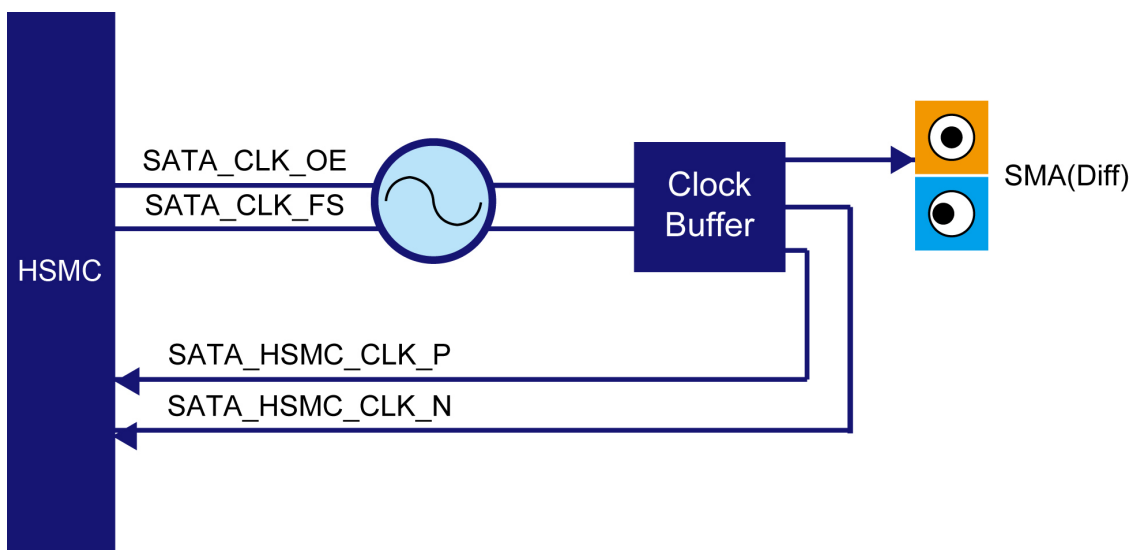

Figure 3.3 Clock connection on the SATA/SAS daughter card
The on-board oscillator is to provide a clean low jitter reference clock at frequencies of 150MHz and 300MHz by toggling the frequency select pin (FS) for use in the high-speed SERDES TX and RX, while the output enable (OE) of the oscillator will tri-state the output pins. The oscillator output is driven to a differential clock buffer to provide two identical differential clock outputs to the HSMC and SMA connectors. Figure 3.3 depicts the connection made on the oscillator clocks and SMA connectors.